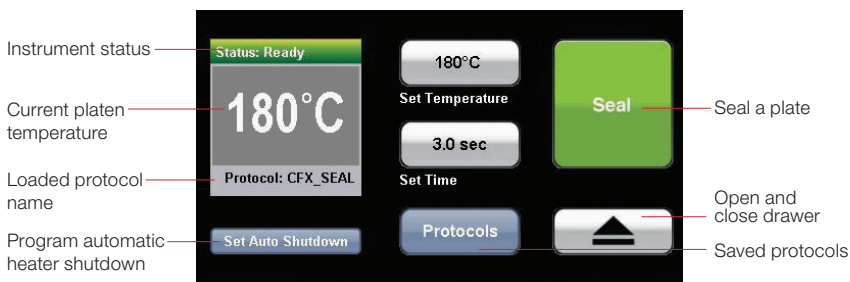

Fig. 6. PX1 home screen.
The home screen (Figure 6) displays important heat sealing information.
1. Touch **Protocols** on the home screen (Figure 6).
1. Touch **Set Auto Shutdown** on the home screen (Figure 6).